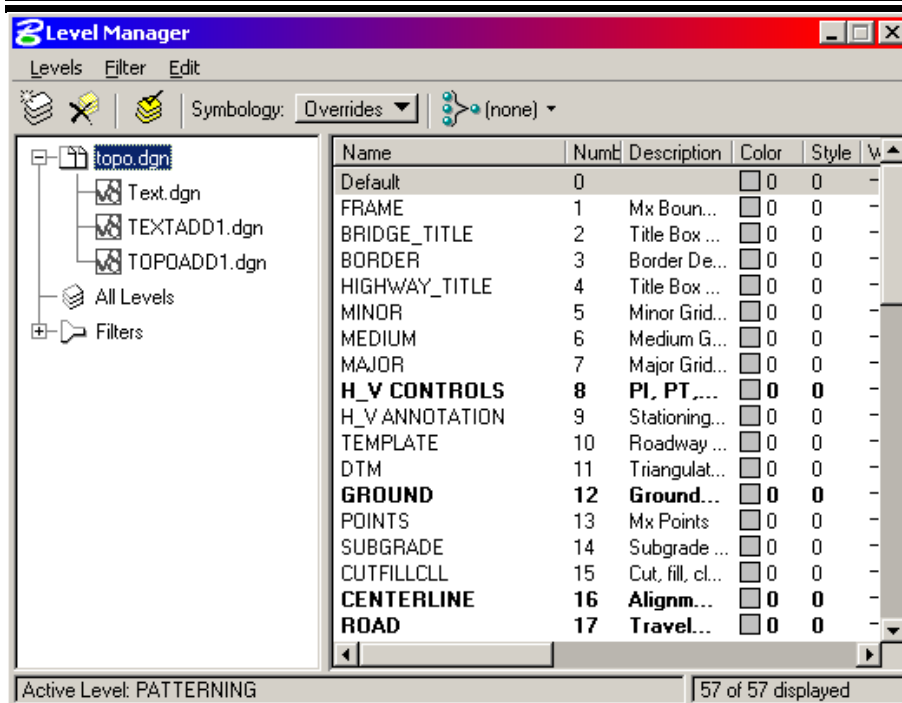
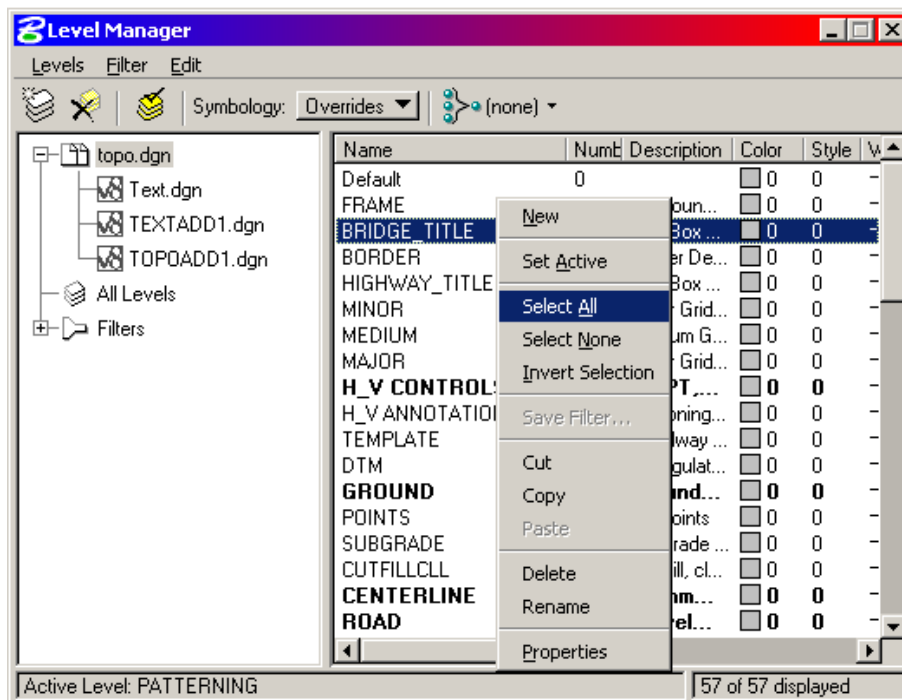
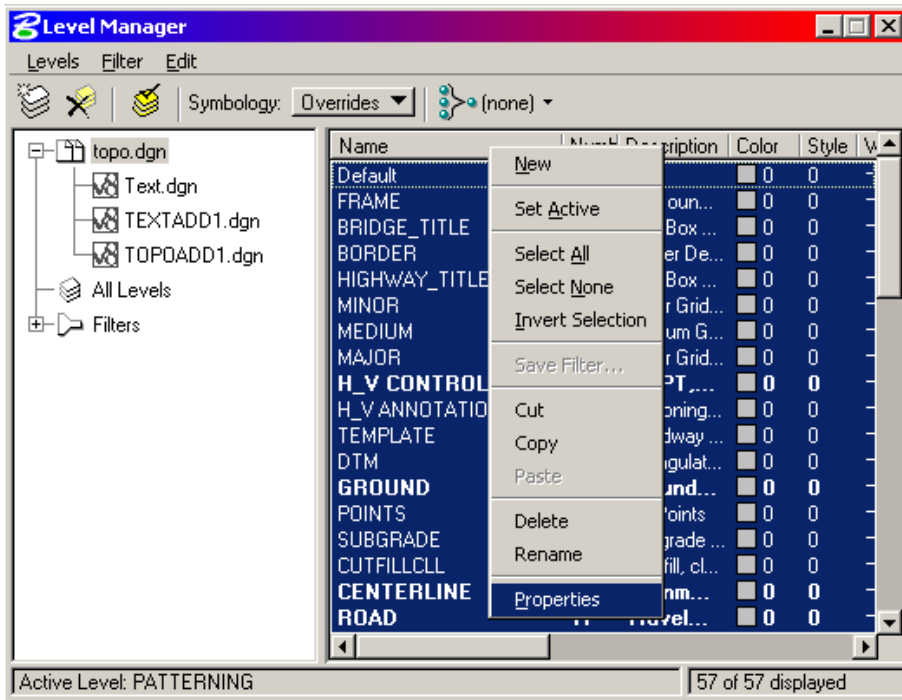

Figure 3-27: Level Manager dialog
Figure 3-28: Right Click and select *Select All*
Figure 3-29: Right Click and select **Properties**
In the leftmost window, click to highlight *Topo* (Figure 3-27) which is the active file you are in. *Right-Click* in the rightmost window and pick *Select All* (Figure 3-28). All *Levels* will highlight (Figure 3-29).
*Right-Click again and select **Properties** (Figure 3-29).*